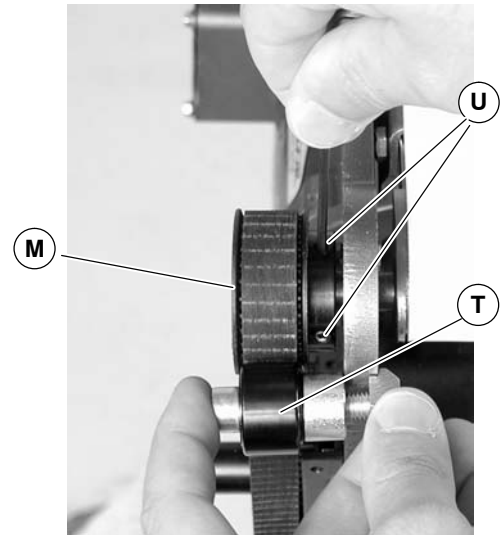

Figure 14
7. Wrap timing belt (P) around driven pulley (M) and drive pulley (J). Install driven pulley (M) onto conveyor shaft.
8. Remove cam bearing and spacer (T of Figure 12). Place the cam bearing and spacer (T of Figure 14) next to the driven pulley (M). Ensure the flanges of the driven pulley are aligned with the cam bearing. Tighten driven pulley set screws (U). This will allow for proper belt alignment while conveyor is in use. Replace cam bearing and spacer (T).